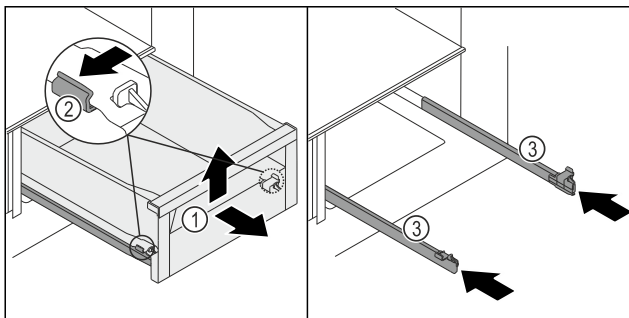

Fig. 94
- ▶ Pull the drawer Fig. 94 (1) out as far as it will go.
- ▶ Press the left and right clamps Fig. 94 (2) on the rails slightly outwards at the same time.
- ▶ Drawer Fig. 94 (1) detaches from the rails.
- ▶ Lift up the drawer Fig. 94 (1) forwards.
- ▶ Remove the drawer Fig. 94 (1) forwards.
- ▶ Push in the rails Fig. 94 (3).